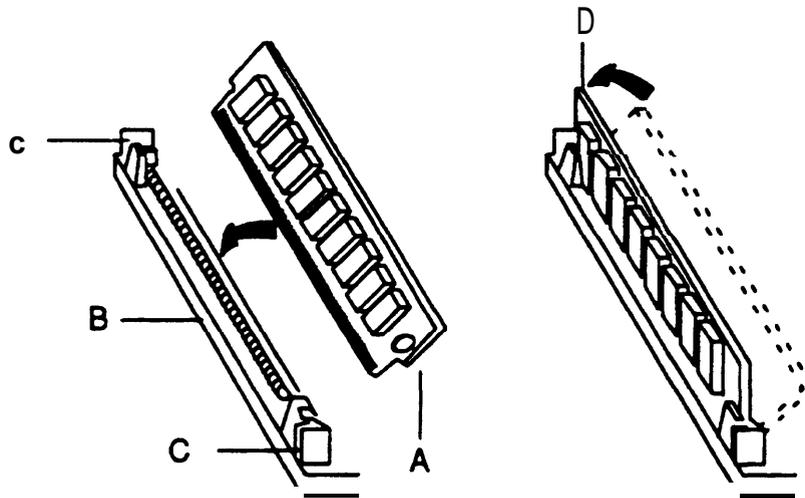

Figure 2-20. Inserting the SIMMs into Sockets
- Refer to Figure 2-20. Holding the SIMM only by the edges **(A)**, align the SIMM with its socket **(B)**. The contact edge should be inserted into the socket first. The chips should be on the left side of the SIMM. Press down firmly while maintaining the angle of insertion.